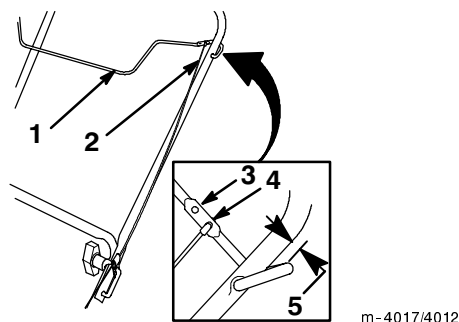

Figure 12
1. Insert the upper end of the control cable into the bottom hole in the control bar bracket (Refer to the inset in Fig. 12).
3. Make sure that a 1/16 to 1/8 inch (1.6 to 3.2 mm) gap exists between the control bar and the handle (Refer to the inset in Fig. 12). To adjust this gap, refer to *Adjusting the Control Cable* on page 17.